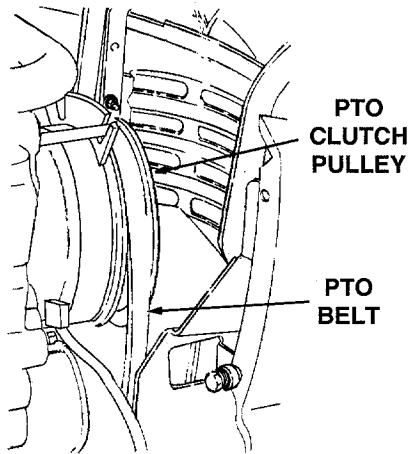

Figure 54
10. Install the forward end of the PTO belt on the PTO clutch pulley by passing the belt upward inside the front of the tractor frame. Ensure that the narrow side of the PTO belt engages the groove of the clutch pulley (Refer to Figure 54).